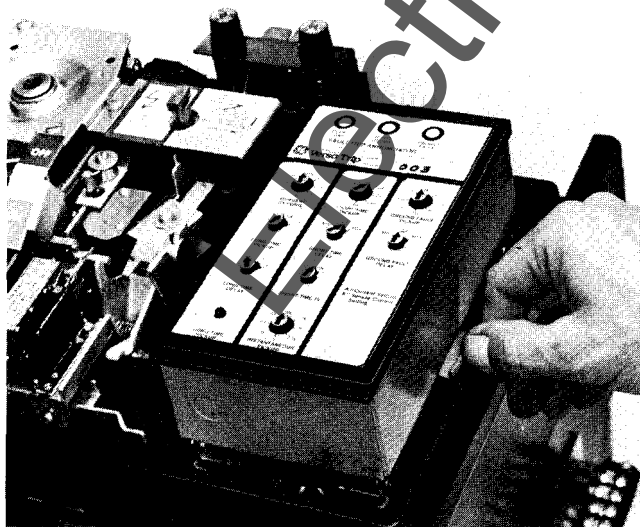

Figure 16.
1. Remove the (4) cover mounting screws and remove the top cover. On MOM breakers, remove only the top cover to replace/change the programmer.
- a) Push in programmer cover interlock (See Fig. 16).
- b) Push in the programmer cover-interlock until it locks in place (See Fig. 16).